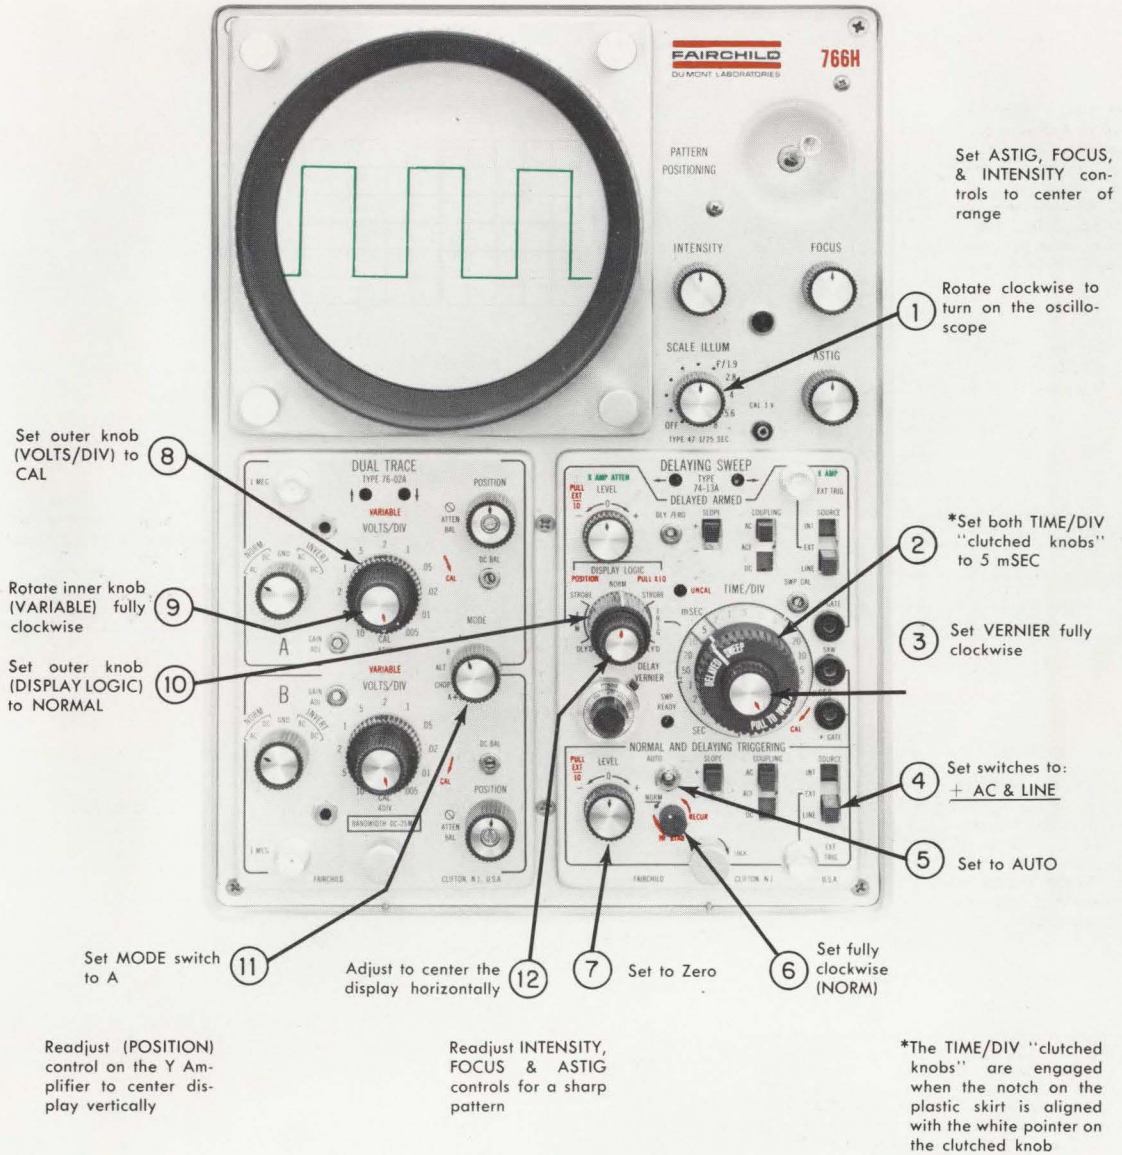

Figure 2-2. Type 74-13A Normal Display
This is a continuation of the initial setup of Figure 2-2. Set the controls exactly as shown and perform the numbered steps in sequence
When the DISPLAY LOGIC switch is set to NORMAL, only the NDT Time Base is displayed. Triggering is derived from the displayed signal internally or line. External signals may be applied to the lower EXT TRIG connector. Refer to Figure 2-2.
1. Set up the instrument for normal display of the CAL signal. Allow a warmup time of 15 minutes. (See Figure 2-2.)